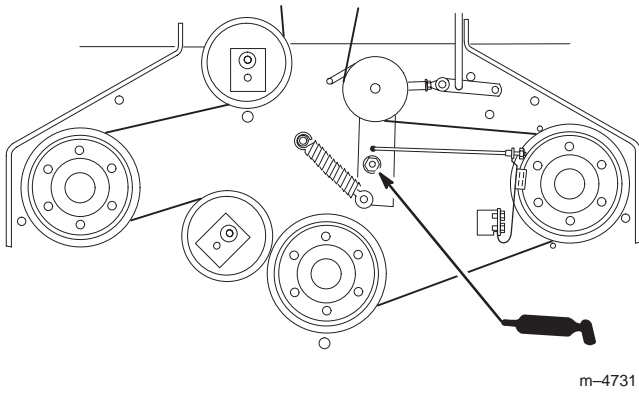

Figure 41
3. Lubricate the blade belt idler arm pivot. (Fig. 41). Lubricate every 50 hours.